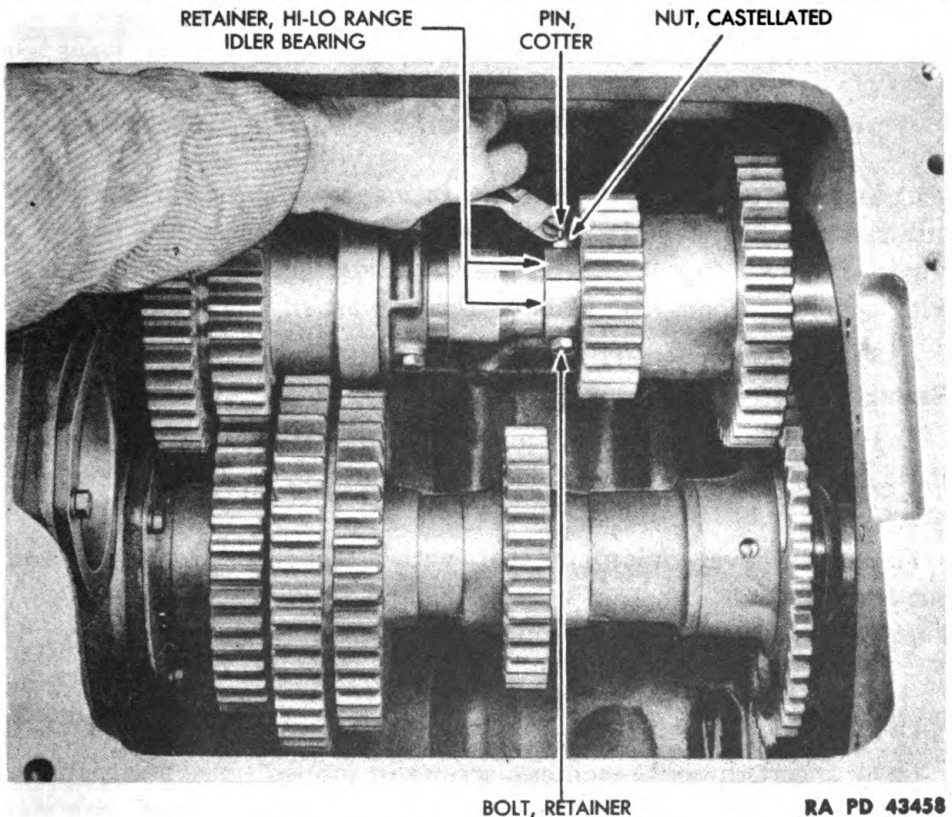

Figure 40 — Rear Hi-Lo Range Idler Bearing Retainer Removal
(16) REMOVE REAR HI-LO RANGE IDLER BEARING RETAINER (fig. 40).